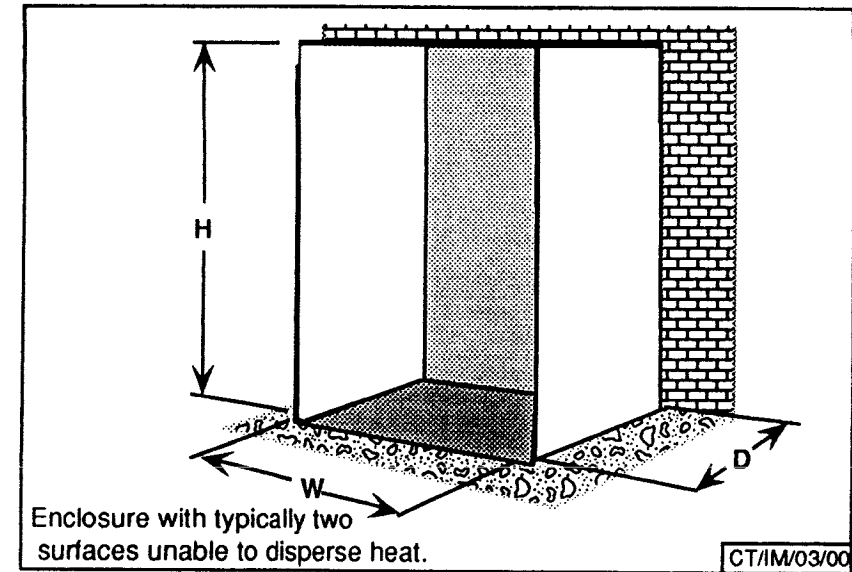

Figure 3-2
- If the drive module is fitted into a cubicle its base and back surfaces cannot be considered to play any part in the cooling process (Fig. 3-2). The effective heat-conducting area, A_e , is provided by the top, front, and two sides only.
The effective heat-conducting area of a cubicle as shown in Fig. 3-2 is -